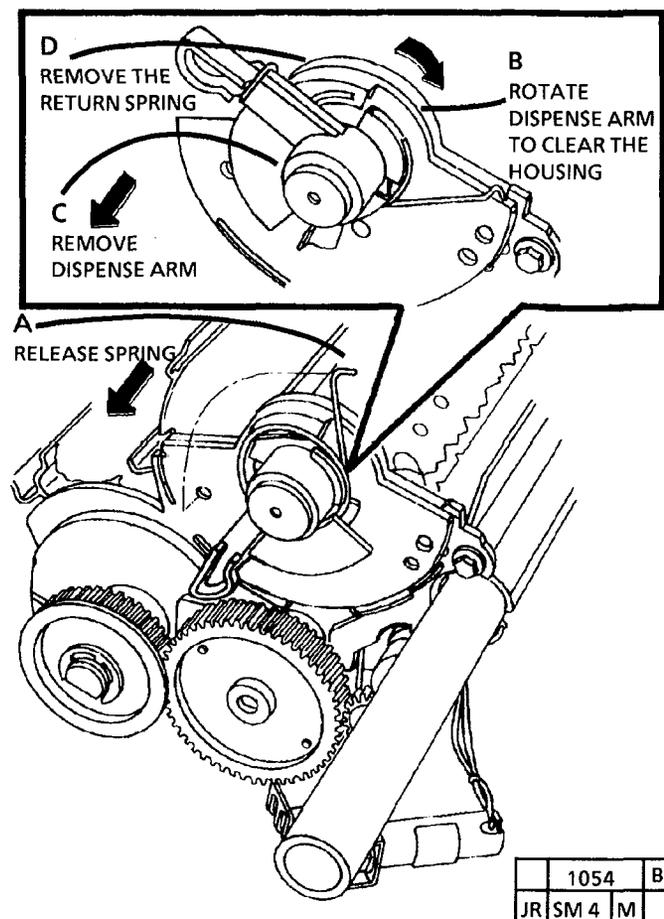

Figure 1. Remove the Return Spring
- (FIGURE 1): REMOVE THE RETURN SPRING.